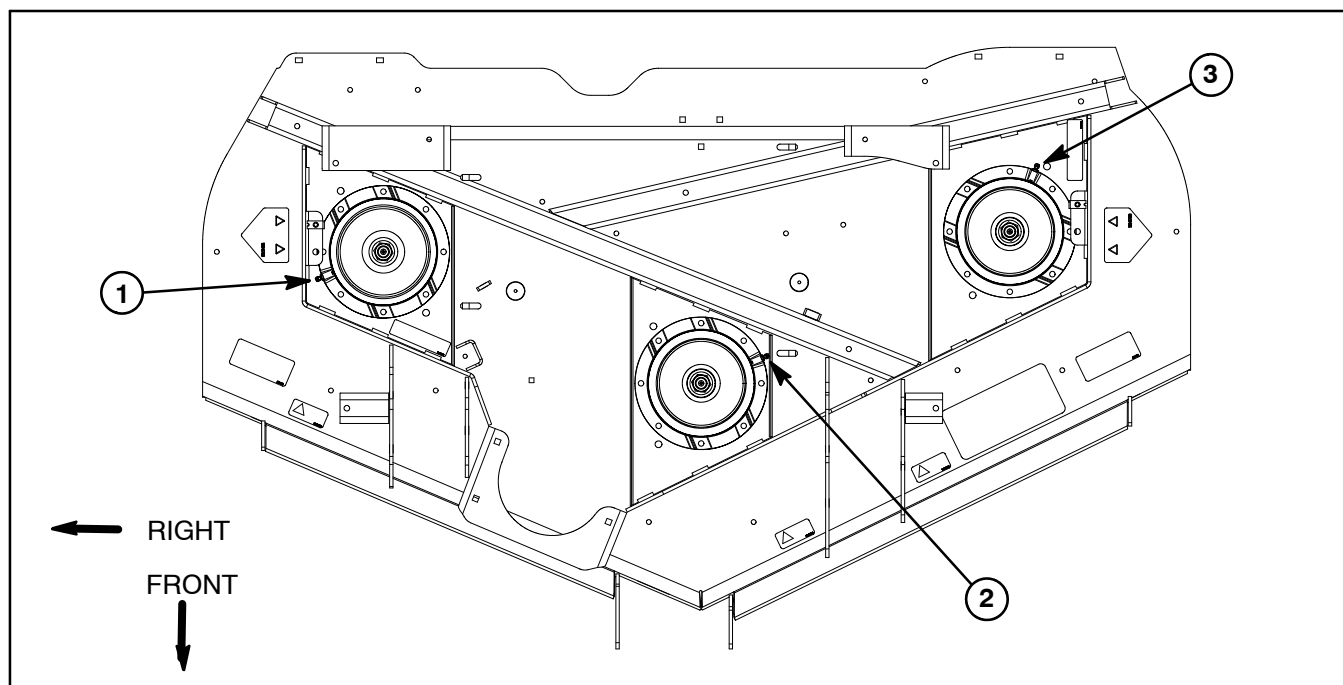

Figure 9
1. Position spindle on cutting deck noting orientation of grease fitting (Fig. 9). Secure spindle assembly to deck with eight (8) flange head screws and flange nuts.